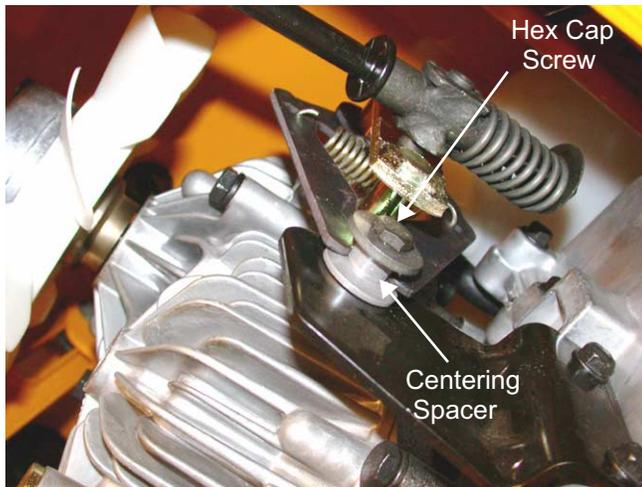

**Figure 4.11**
- 4.11. Shows the tractor in a position for neutral adjustment. Using the Hefftee Lift with straps and the exhaust connected to an exhaust ventilating system. Also note some suitable weight on the seat is necessary because the safety switch button is in the center of the seat, therefore you are not able to just tie the seat down. See Figure 4.11.